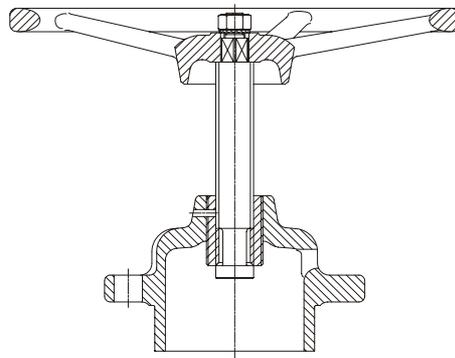

Fig. 6
- Clamp the bonnet in the vice unscrew the threaded bush using spindle and hand wheel (see Page 11 Fig. 6)